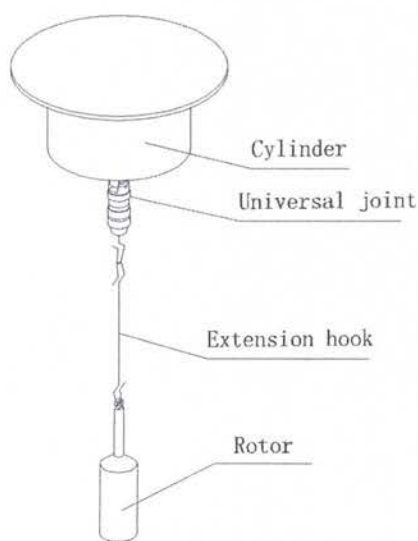

Fig. 15
4) Remove the plastic protective cap of the shaft below the main body of the viscometer, screw the rotor extension hook clockwise (reverse thread) into the universal joint, and select the used rotor according to the viscosity range of the sample and hang it. See Fig.15 for details.